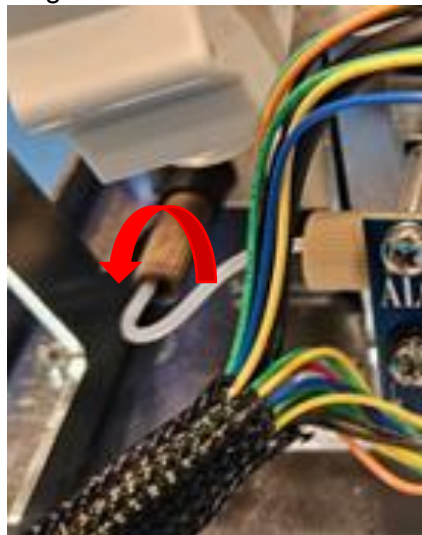

Figure 13
2.12. Remove the Reading Cell to Primary Tubing from Primary Pump by turning brown tube connector counterclockwise. Figure 13.